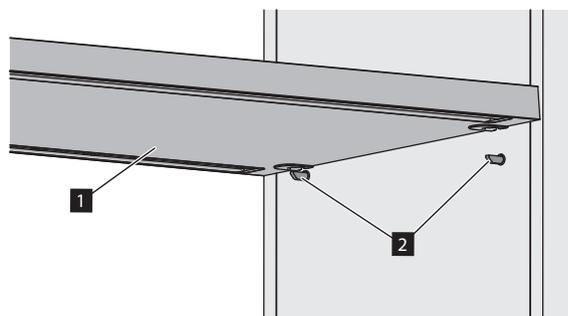

Fig. 24: Placing a shelf on shelf supports
4. **NOTICE! Danger of short-circuit.** Make sure that there is no electrical contact between shelf supports (Fig. 24/2) positioned next to each other.
5. Place the shelf (Fig. 24/1) on all 4 shelf supports (Fig. 24/2).